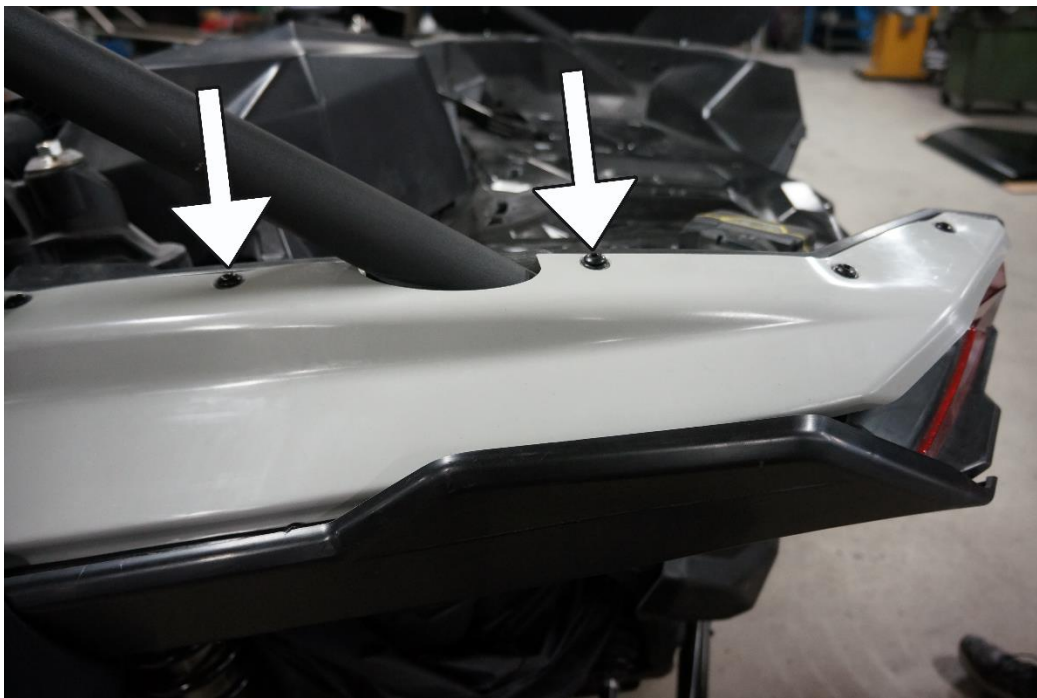

Figure 1-1
1. Remove two factory bolts.(fig 1-1)